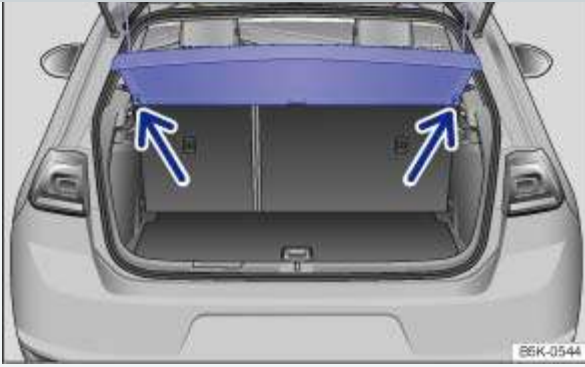

Fig. 100 In the luggage compartment: Installing and removing the luggage compartment cover.
- Unhook the supporting cords from each side of the trunk lid ⇒ *Fig. 100* (top arrows).
- Push the luggage compartment cover upward from below ⇒ *Fig. 100* (bottom arrows) until it releases from the side brackets.
- Press the luggage compartment cover into the side brackets from above ⇒ *Fig. 100* (bottom arrows).
- Hook the supporting cords onto the trunk lid ⇒ *Fig. 100* (top arrows).